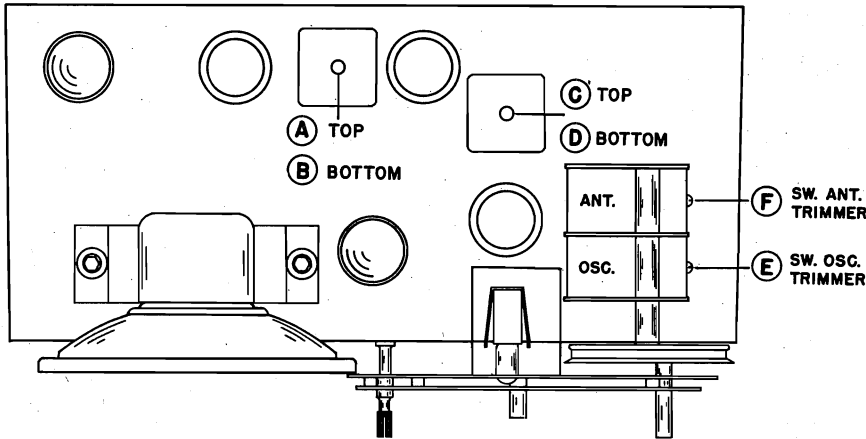

Fig. 6. Top View of Chassis Showing Location of Alignment Adjustments
- Refer to Figs. 6 and 7 for location of alignment adjustments.